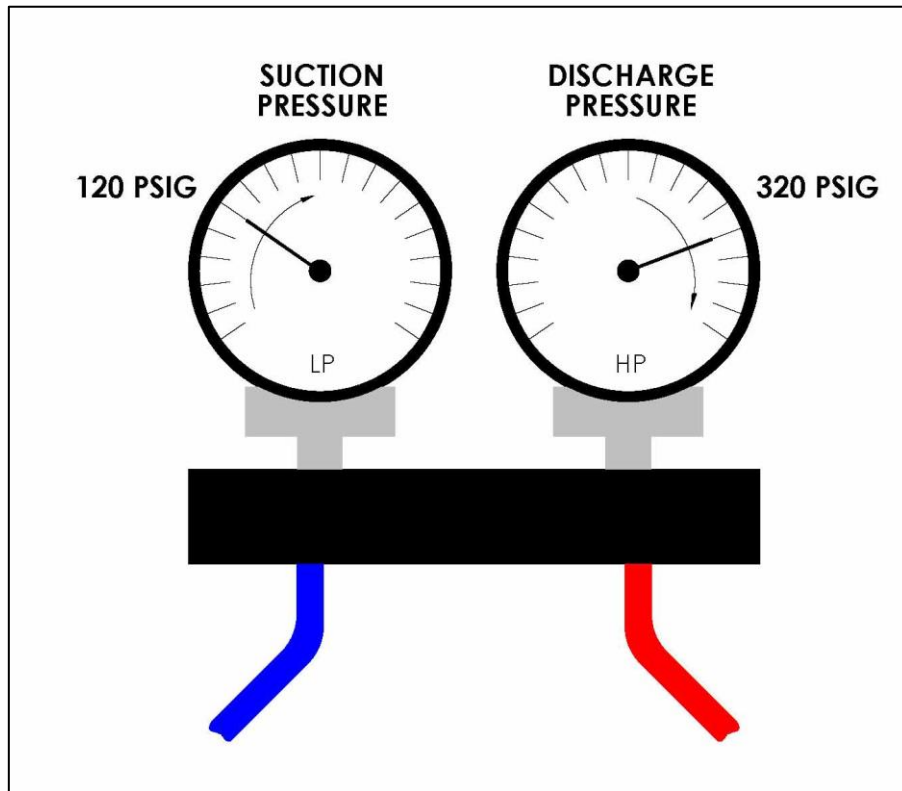

Figure 30. Minimum Suction and Discharge Pressures
3. As shown in Figure 30, when the **compressor discharge pressure reaches 320 psig (HP gage) and the suction pressure reaches 120 psig (LP gage) the CAV is closed.**